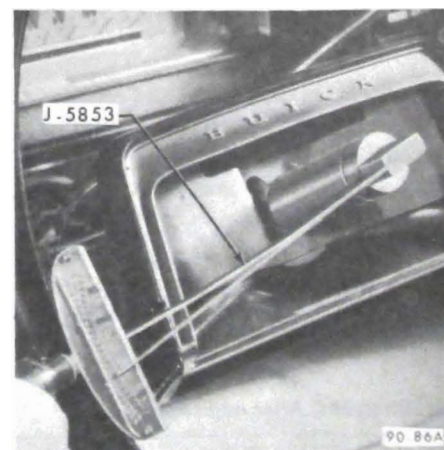

Figure 90-2 Checking Adjustments in Car
6. Attach Torque Wrench J-5853 to steering wheel retainer nut and check the torque required to rotate the wheel (See Figure 90-2). The torque required to keep wheel rotating should be 5 to 8 inch pounds and